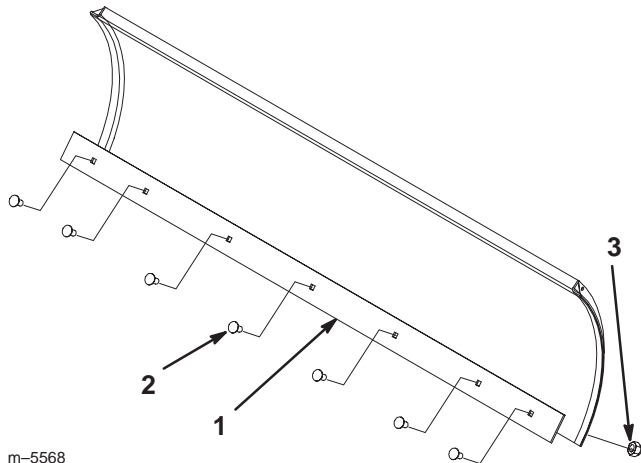

Figure 15
2. Remove the carriage bolts and locknuts securing the scraper (Fig. 15).
3. Reverse the scraper and install it with the previously removed hardware (Fig. 15).